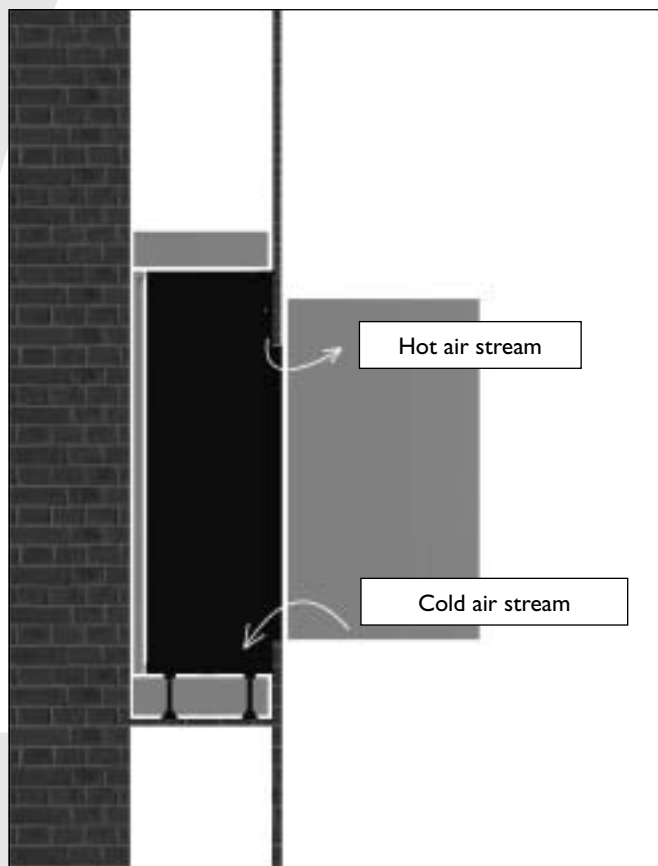

Figure 2
- The hot air discharge outlet and the inlet for the cold air should not be partially or fully blocked in any manner whatsoever (see figure 2).
- Do not place any objects in front of the appliance since this may be damaged by heat (**see figure 2**).
- Wet clothing, towels, etc., should not be placed for drying on or near the appliance; (**see figure 2**).
The appliance is designed to be installed permanently in a new-build chimney breast. There is also the option to install a decorative fireplace. However, due account must be taken of the air currents around the appliance (your installer will find information about this in the Installation Manual). As a user, you should ensure that no objects are placed in front of the appliance, particularly the hot air outlet and the cold air inlet (see figure 2).